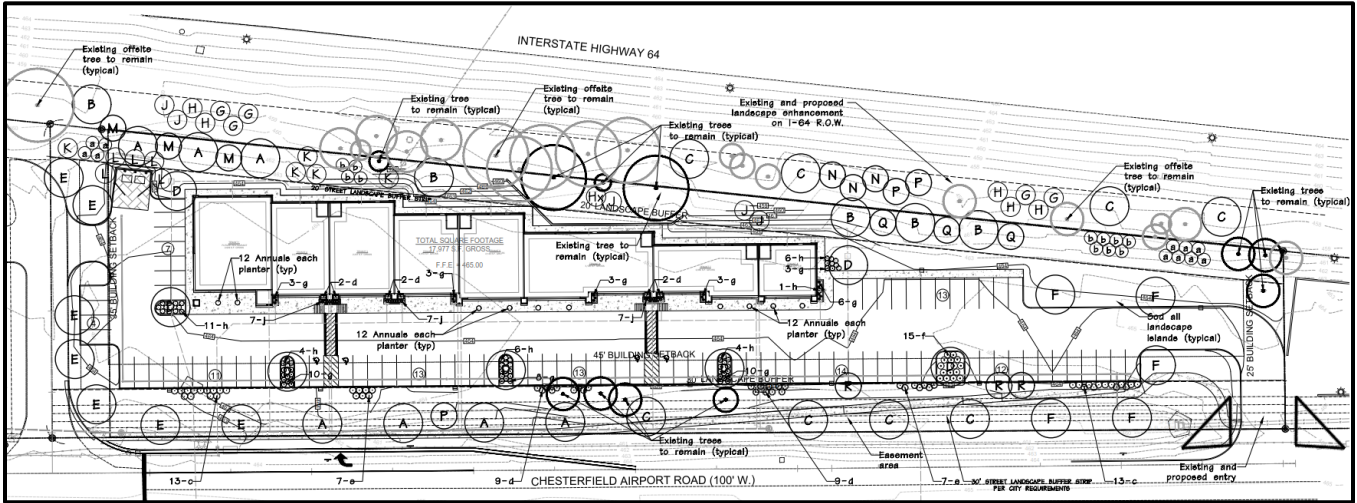

Figure 6: Landscape Plan
Landscaping surrounds the entire site with the most density along the north boundary seen in Figure 6 on the following page. There are 79 trees proposed consisting of deciduous trees (39), evergreen (25), and ornamental trees (15). As one enters the parking area, they are greeted by Little Leaf Linden and Red Oak deciduous trees and then once arrived, Crimson Cloud Hawthorn break up the parking area located primarily in the parking islands. The City of Chesterfield approved a Landscape Buffer modification request in which a 20ft wide landscape buffer may be utilized along I-64 in lieu of the 30ft